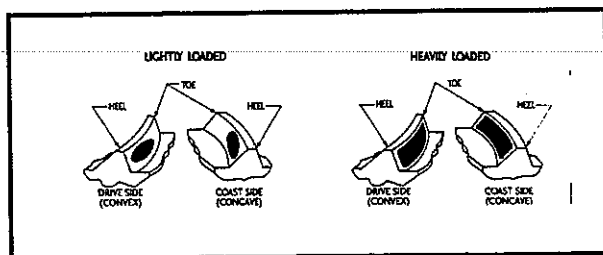

Figure 31—Incorrect Gear Patterns
3. Rotate pinion so that ring gear completes one revolution in each direction. (See Figure 31—Incorrect Gear Patterns.)